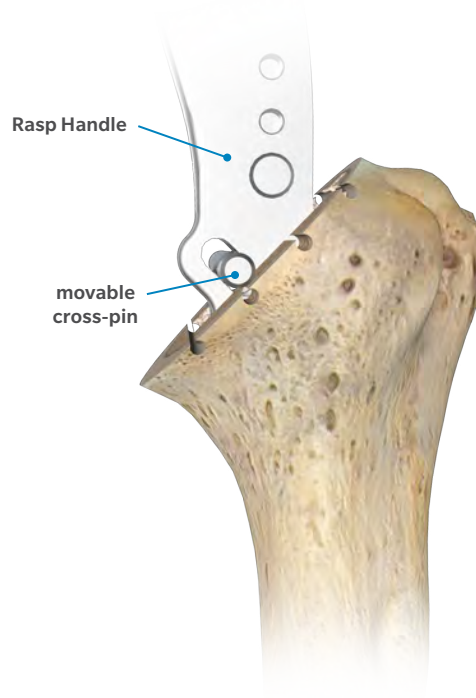

Figure 20
The movable cross-pin of the Rasp Handle should ideally sit in the middle of the resection surface, anterior – posterior (Figure 20).
ⓘ **Note:** Care should be taken to ensure that the Rasps are fully inserted into the humerus, i.e. until the movable crosspin is visibly in contact with both anterior and posterior metaphyseal surfaces (Figure 20).
- Remove the Rasp by using the Rasp Handle (Figure 20).